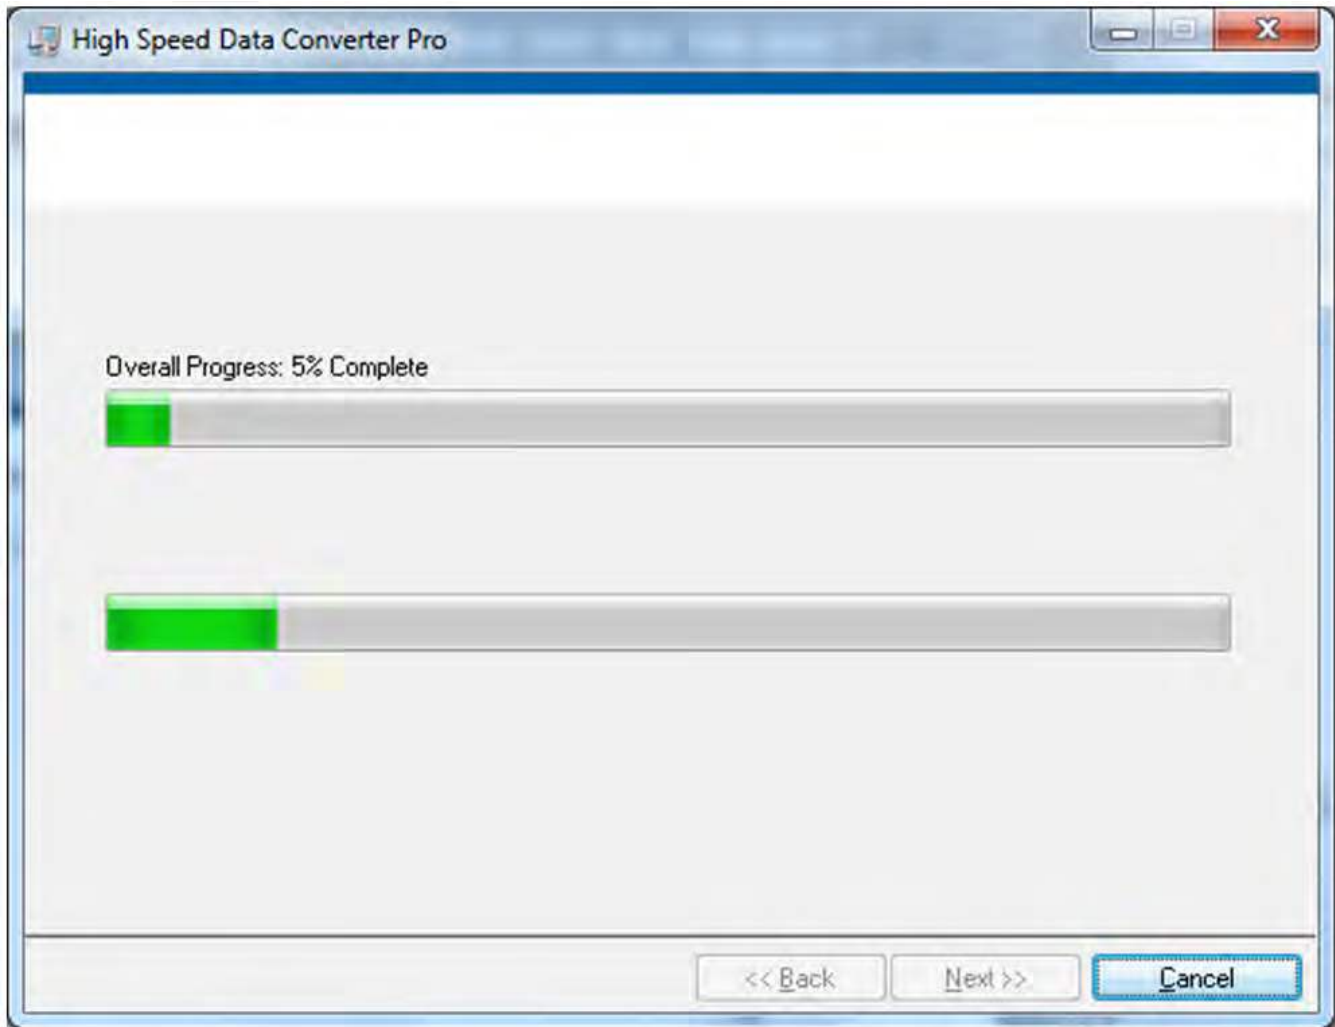

Figure 32. HSDCPro Install (Installation Progress)
- The window shown in Figure 32 should appear indicating that the installation is in progress.